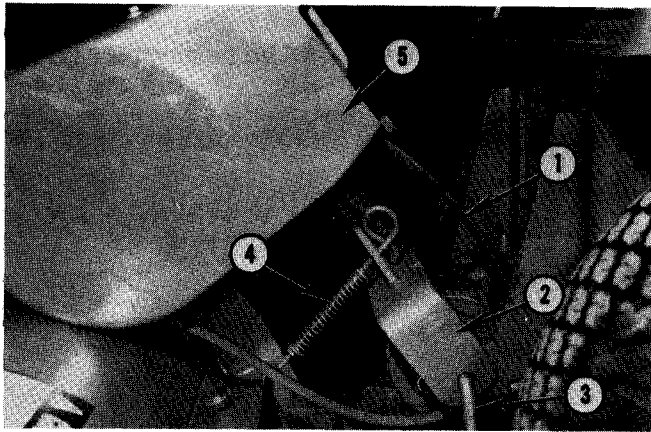

Fig. 7 - UPPER HITCH FRAME
5. Place drive belt inside upper Tiller hitch frame and attach upper Tiller hitch frame, Fig. 7.